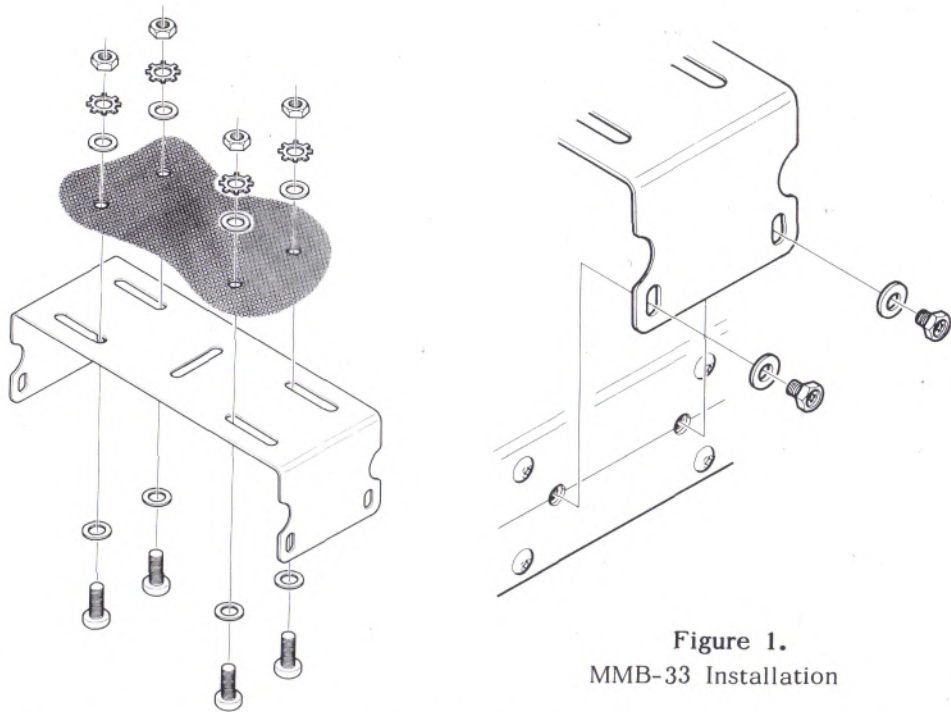

Figure 1.
- (1) Use the mounting bracket as a template for positioning the mounting holes, after determining the proper location with sufficient clearance for the transceiver. Use a 4.8mm (3/16") bit for drilling the holes. Secure the bracket with the screws, washers and nuts supplied, as shown in Figure 1. (Continued on page 10).